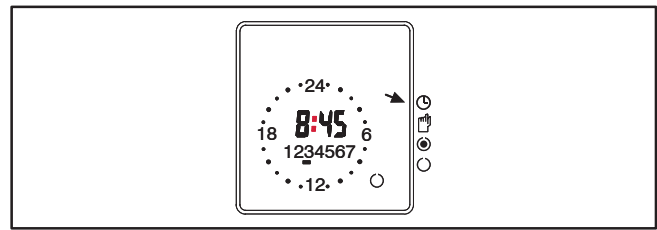

FIGURE 5. SET TIME
- 4.. Press the + or – buttons until the correct minute is displayed. Press the **OK** button. The home menu is redisplayed showing the set time (see Figure 5).